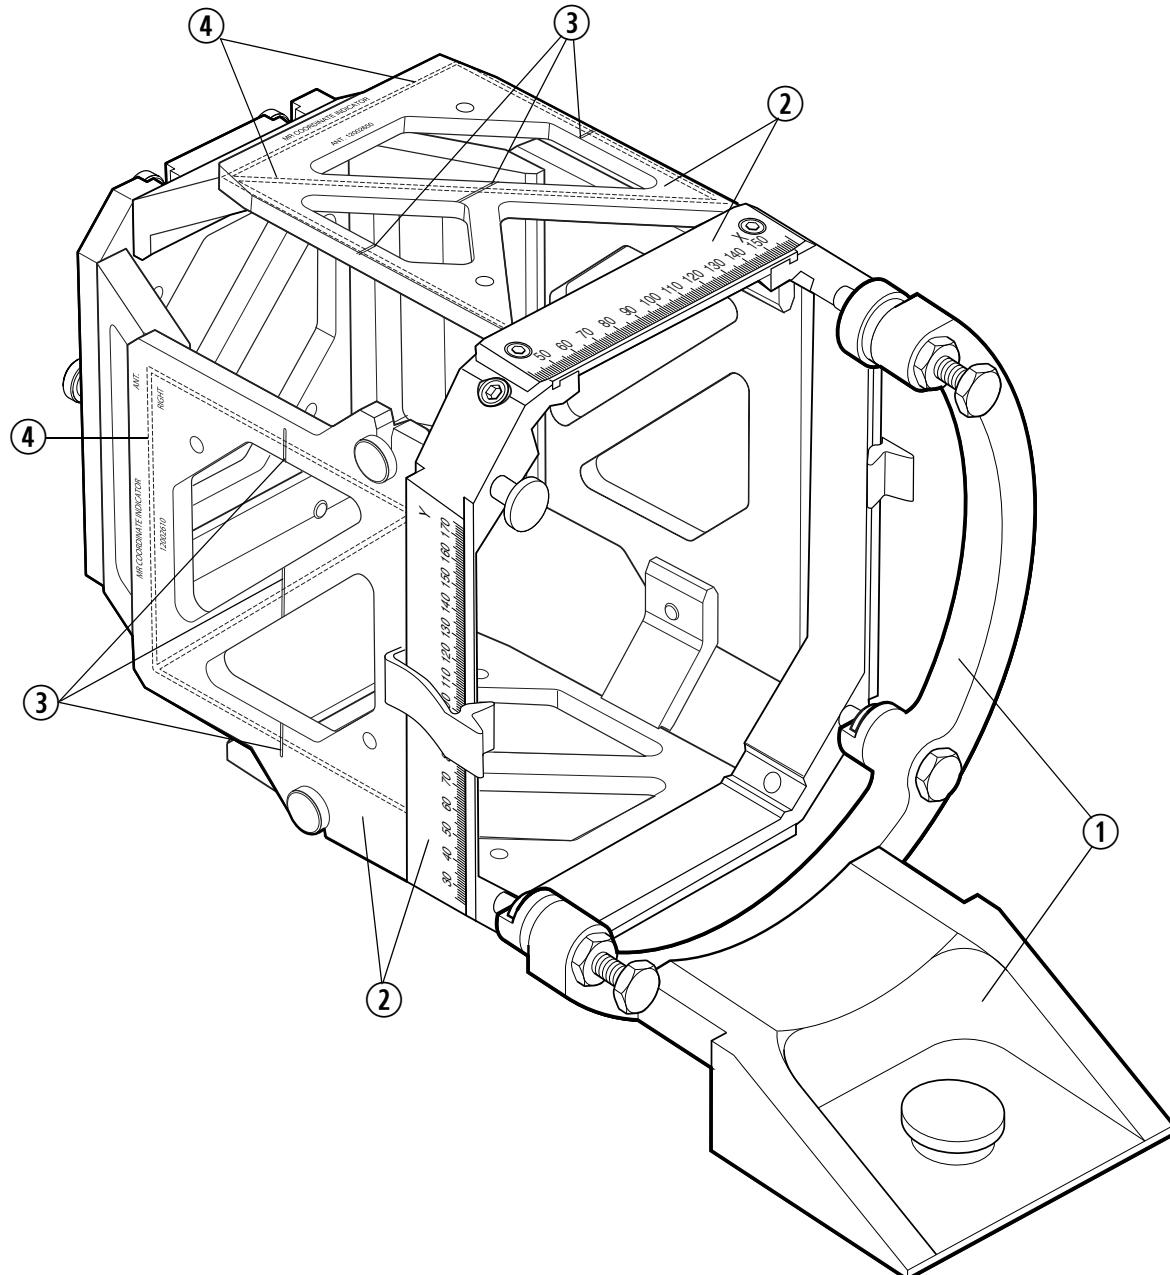

Figure 6.13 *MR Indicator and coordinate frame mounted on an MR Adapter*
Figure 6.13 shows an **adapter** ① assembled with the coordinate frame and the **indicator** ②, the **reference lines** ③ for scanner light alignment, and the **marker channels** ④ filled with copper sulfate (CuSO_4) solution to create fiducials on MR images.